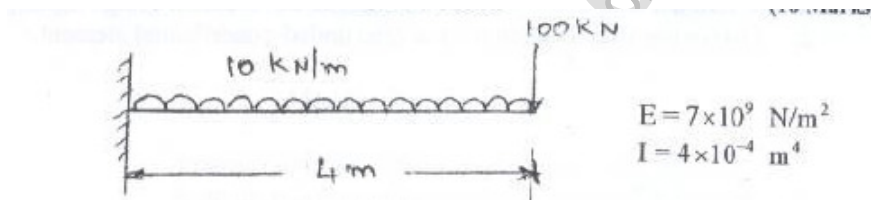

Fig.1
- Determine the maximum deflection in the uniform cross section of cantilever beam shown in Fig.1 by assuming the beam as a single element.